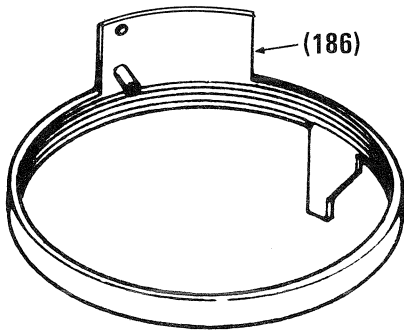

FIG. 9-1
The automatic/manual aperture ring (186), and the aperture signal ring (170) are shown in Figures 9-1 and 9-2. They are mounted in ball bearing races in the Canon mount and extend through the sensing ring on the back of the mount. The rear projection on each ring is engaged by a lever in the camera. Exposure measurement information is relayed to the diaphragm of the lens through these rings.